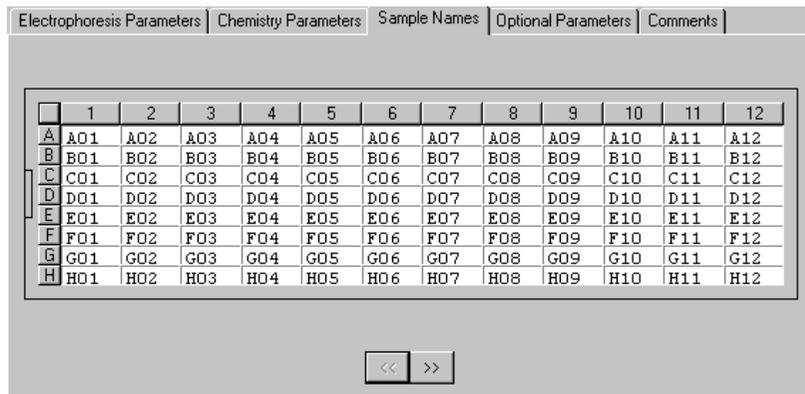

Figure 4-4. The Sample Names tab.
7. Click the **Sample Names** tab. The Sample Names tab appears (figure 4-4).